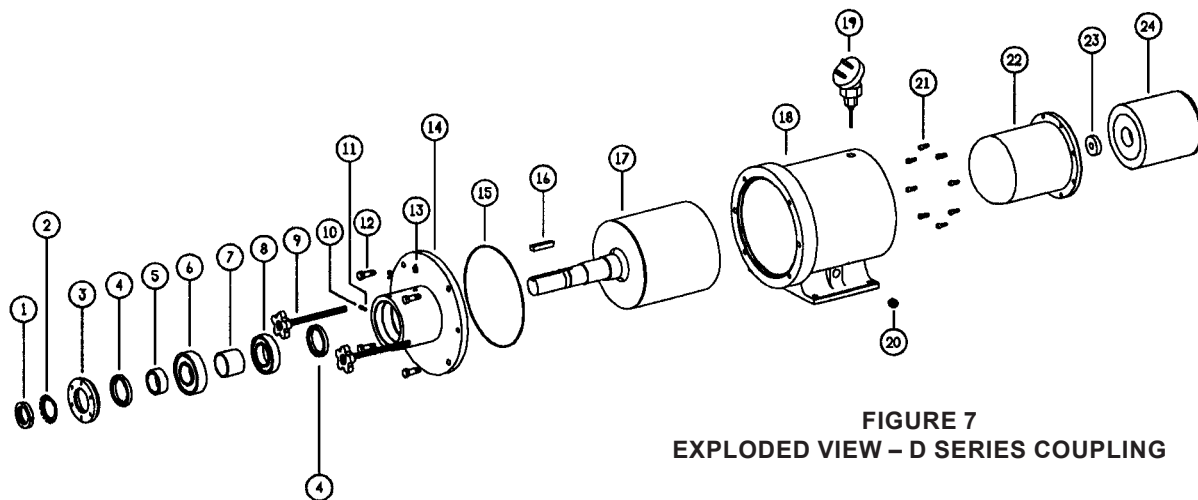

FIGURE 7
1. Install the two jackscrews (2-297-022-999) into the bearing housing. See **Figure 7 on page 6**, and **Figure 8**. Remove two 0.50" capscrews and thread a 0.50" NC x 8" threaded rod into these holes. Remove other two 0.50" capscrews.